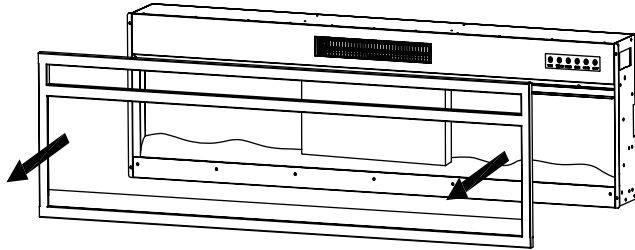

Figure 2
(2) Then Carefully lift the glass panel off the fireplace and place it on a soft, clean surface (Figure 2).